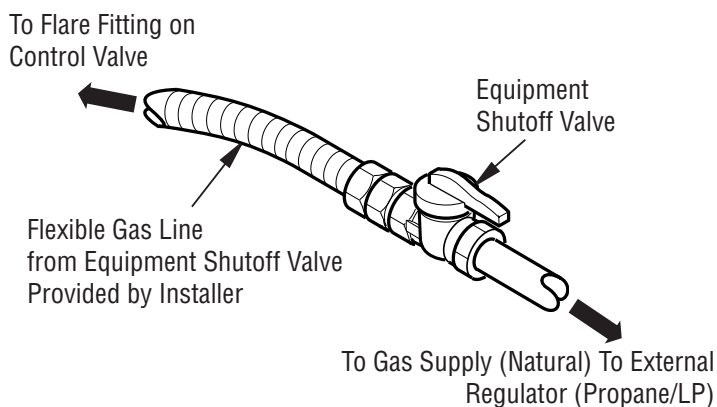

Figure 16 - Flexible Gas Line
2. Route flexible gas line (provided by installer) from equipment shutoff valve to burner system (see Figure 16). Route flexible gas line and attach to valve.